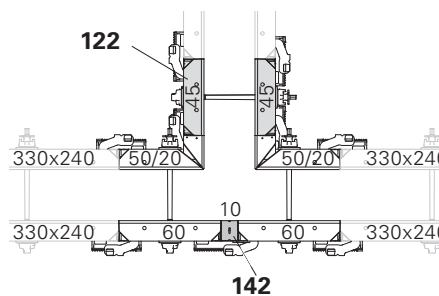

Fig. C3.08
Max. panel width on the T-junction between corner and following panel is 45 cm – MX 18, 330 x 45 (122). (Fig. C3.08)